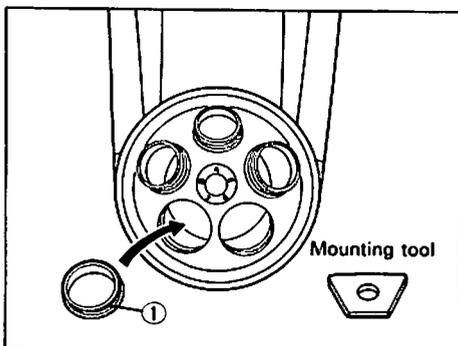
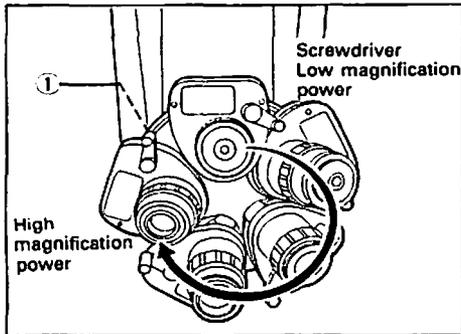

Fig. 5
Fig. 6
3 Attaching the Nomarski Prism Mount (Figs. 5, 6)
1. Loosen the clamping screw ① of the Nomarski prism attachment, shown in Fig. 6, with the Allen® wrench and remove the Nomarski prism mount ①, shown in Fig. 5, from the Nomarski prism attachment.
2. Screw the Nomarski prism mount ① securely into the nosepiece with the mounting tool provided.
4 Mounting the Nomarski Prism Attachments (Fig. 6)
- ★ Mount each Nomarski prism attachment in such a manner that the straight line passing through the centers of the nosepiece and the optical axis of each objective (Fig. 6). Tighten the prism clamping screws only after all attachments are mounted correctly.